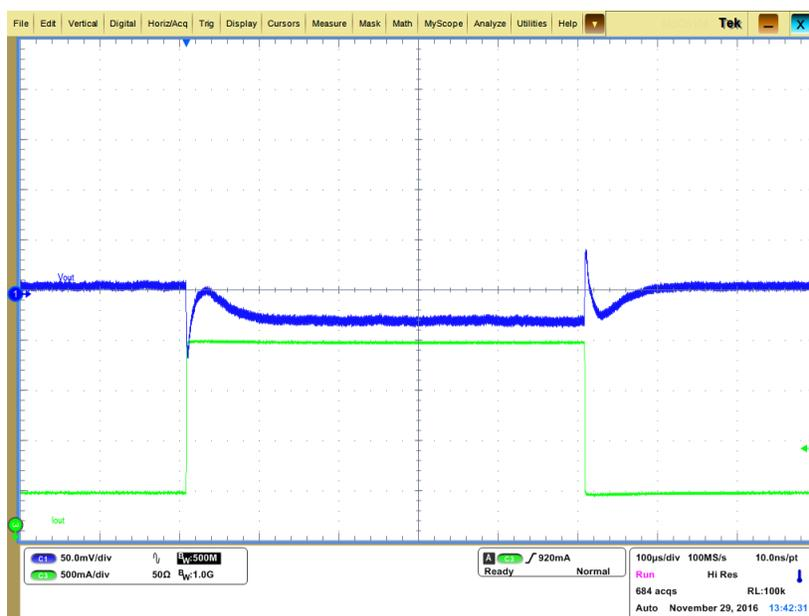

Figure 26. Load Switch 2 (VDD DDR SW2)
- load goes from 500 mA to 2 A and then returns to 500 mA (Figure 26)